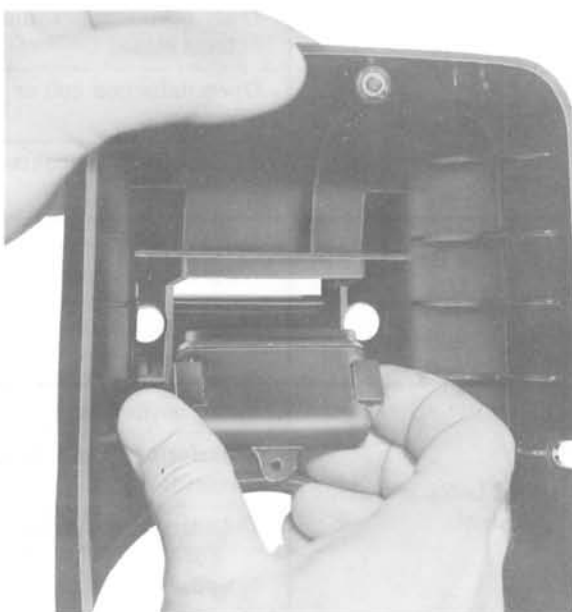

Fig. 12—Removing Handhold Cover
- 4.06** Plungers should move freely throughout entire travel without binding or squeaking (Fig. 12).